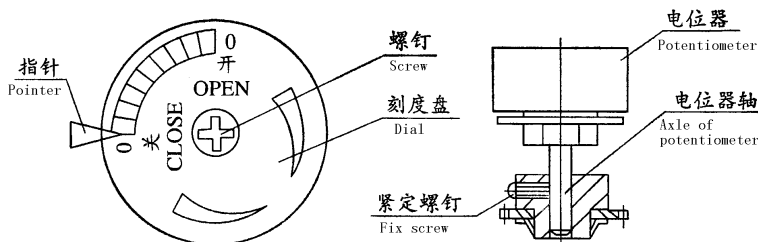

图 8 开度机构 Fig.8 position indicator
开度刻度盘调整，见图 8。当行程控制机构调整完成后，把阀门关闭到“全关”位置，目视检查刻度盘上的“0 关”刻度是否与指针对齐，如没有对齐，松开刻度盘上的螺钉，转动刻度盘，使指针与“0 关”刻度对齐，然后旋紧刻度盘上的螺钉。
The adjustment of position indicator is as shown in Fig. 8. When the adjustment of travel limit is finished, operate the valve to complete closing. Check visually if “0 - close” on the scale dial is aiming at the pointer. If it is not, please loose the screw on the dial and rotate the dial to make the pointer aims at the scale of “0 - close” , then tighten the screw on the dial.
- 12.4 图 8 中刻度盘上的“开”和“关”位置颠倒。
- 12.4 In Fig.8, “Open” and “Close” on scale plate shall be exchanged.